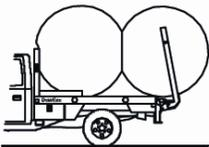
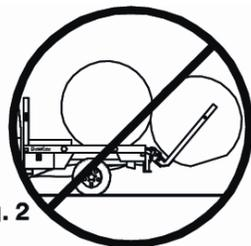

Fig. 1
Fig. 2
**IMPORTANT:** When hauling one bale, make sure it is resting on the bed. When hauling two bales make sure the second bale is as far forward as it will go (Fig. 1). Carrying a bale behind the bed, as shown in Fig 2, places excessive stress on the cylinder, linkage, and pins.